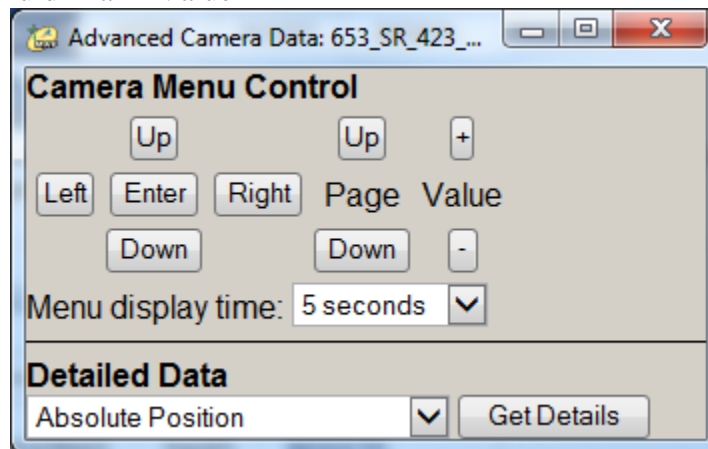

Figure 3-67 – Advanced Camera Dialog
- **Advanced** (see Figure 3-67): Allows advanced commands to be sent to devices, this includes features like camera menu control and the ability to query various features of the